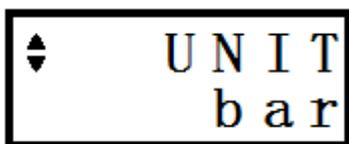

Figure16
5.1.4 Enter "Left" five times or "Right" nine times, as shown in Figure 16;;